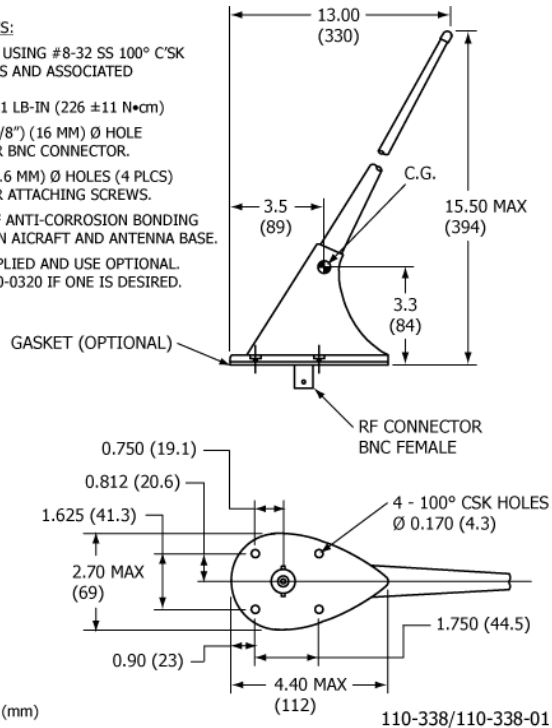
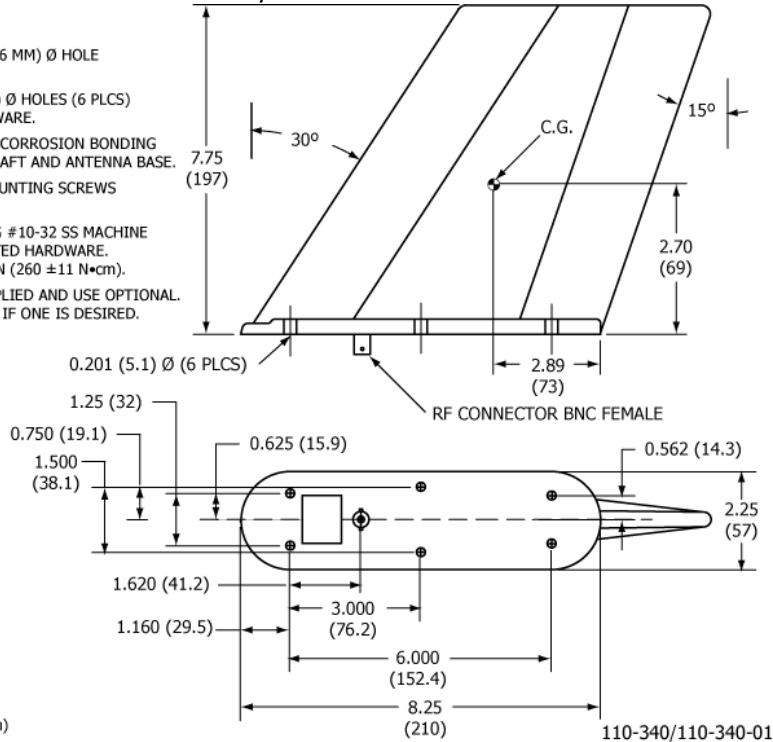
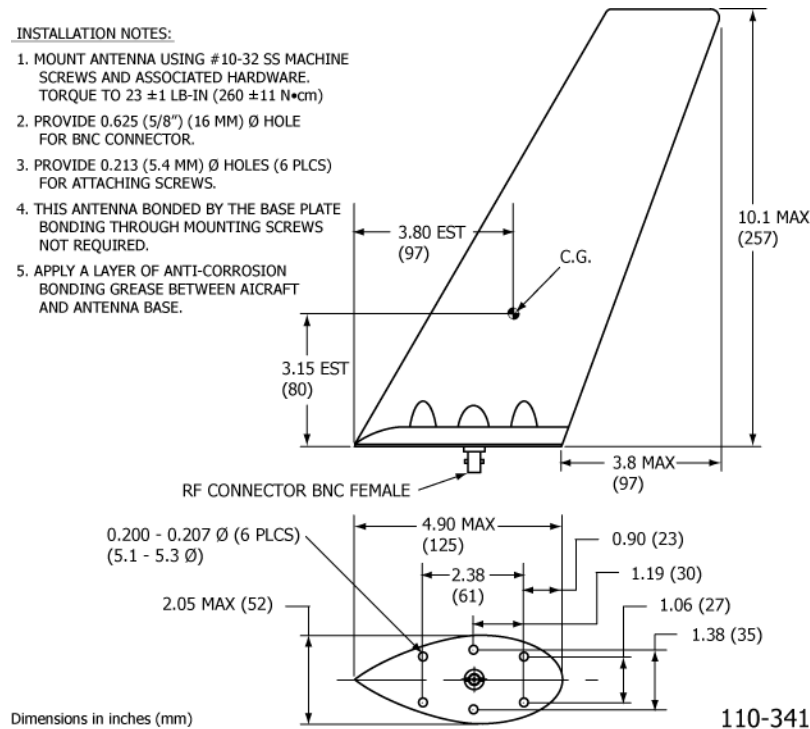
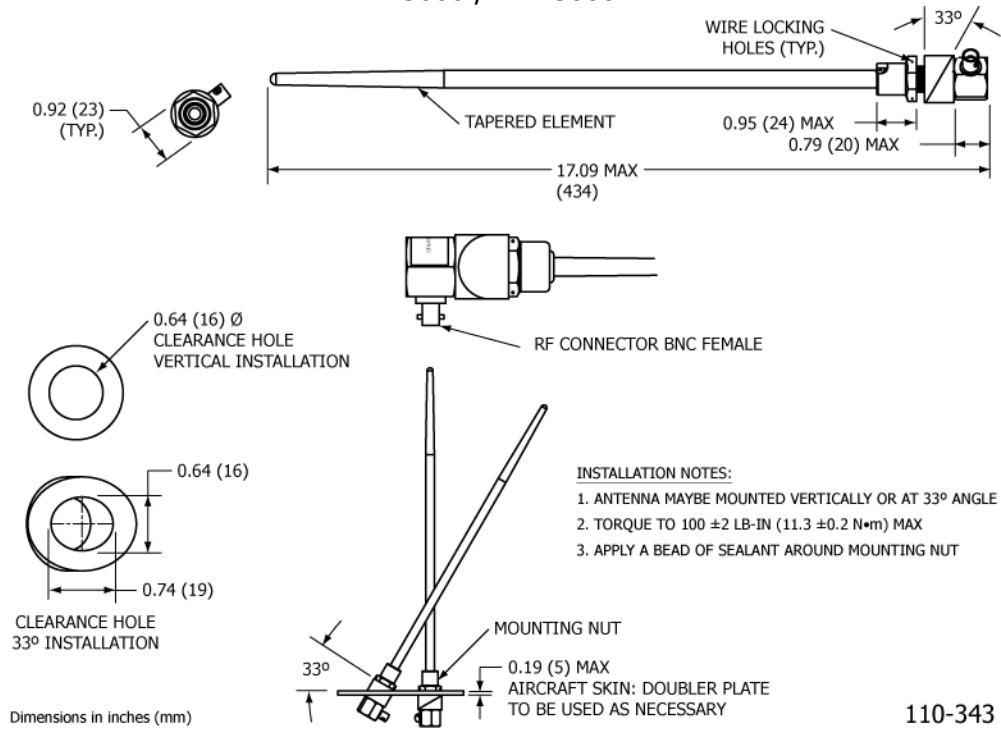

Figure 17 Rod Antenna 110-338/110-338-01 Outlines and Dimensions
Figure 18 Blade Antenna 110-340/110-340-01 Outlines and Dimensions
Figure 19 Blade Antenna 110-341 Outline and Dimensions
Figure 20 Whip Antenna 110-343 Outline and Dimensions
- 2) Drill the antenna mounting holes and coax connector hole referring to the appropriate antenna illustration for hole patterns and hole sizes. See Figure 17 and Figure 18 on page 55 and Figure 19 and Figure 20 on page 56.